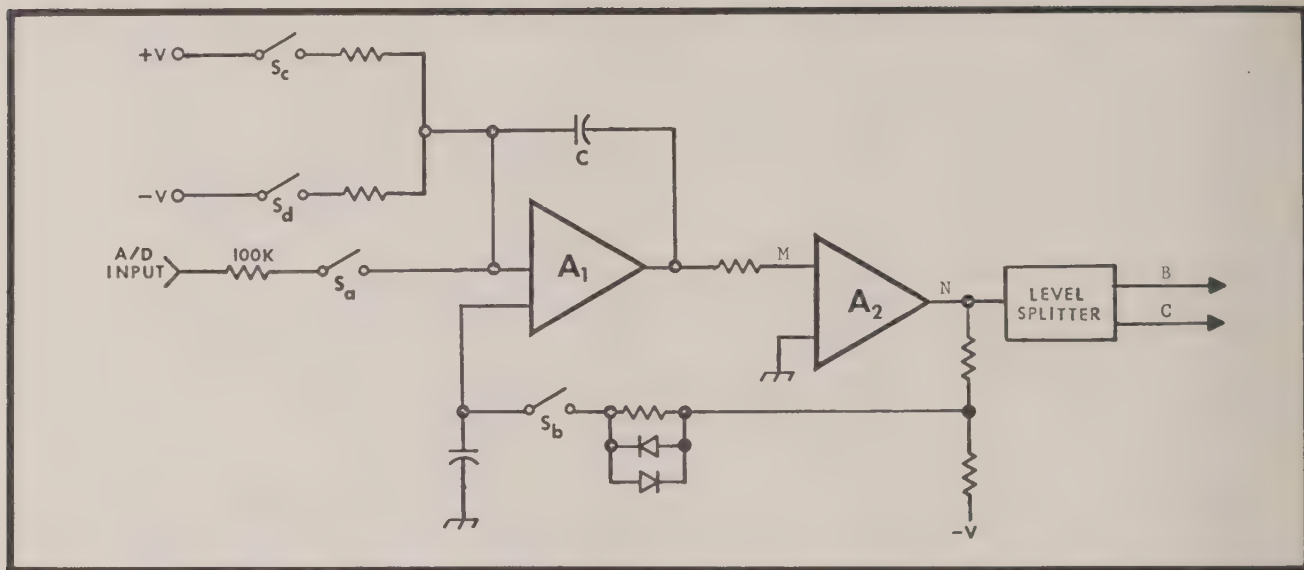

FIGURE 10. Integrator Block Diagram.
1. Zero Period. During this period the integrator amplifier is zeroed by a feedback rezeroing circuit as shown in Figure 10. Switches S_a , S_b , and S_d are open to prevent integrator charging.
1. Integrator Circuit. (Refer to Figure 10 for identification of switches S_a , S_b , S_c , and S_d). The operation of the Integrator is controlled by the positions of switches S_a , S_b , S_c , and S_d . Switch S_a is Q401. Switch S_b is transistor Q411. Transistors Q404, Q405, Q408, Q409, and Q410 are control circuits arranged to control the proper FET switches depending on the signals at pins 12 and 13. The integrator amplifier consists of transistors Q402 and Q403 and integrated circuit QA401. The feedback capacitor is C406. Switches S_c and S_d control the current for 9-volt zener diodes D401 and D402. Resistors R403, R404, R405, R409, R410, and R411 are full-scale calibration resistors. Potentiometers R402 and R408 are internal screwdriver calibration adjustments.
3. Feedback Rezeroing Circuit. This circuit provides rezeroing of the Integrator circuit using negative feedback from the Zero Crossing Detector output. Transistor Q411 is the equivalent of Switch S_b in Figure 10. Resistor R434 and capacitor C414 form a feedback-loop filter circuit. Diodes D407 and D408 provide fast response for large input offsets due to input overloads.